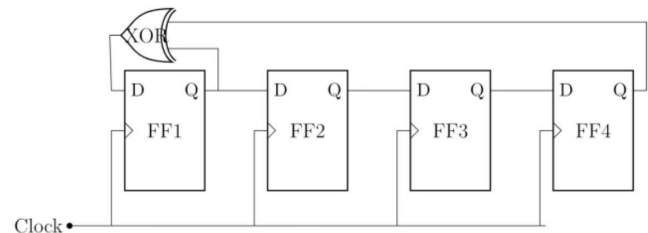

Fig. 4. Connection in XOR gate
- 4) The next connection is XOR gate (7486 IC) according to the figure 4